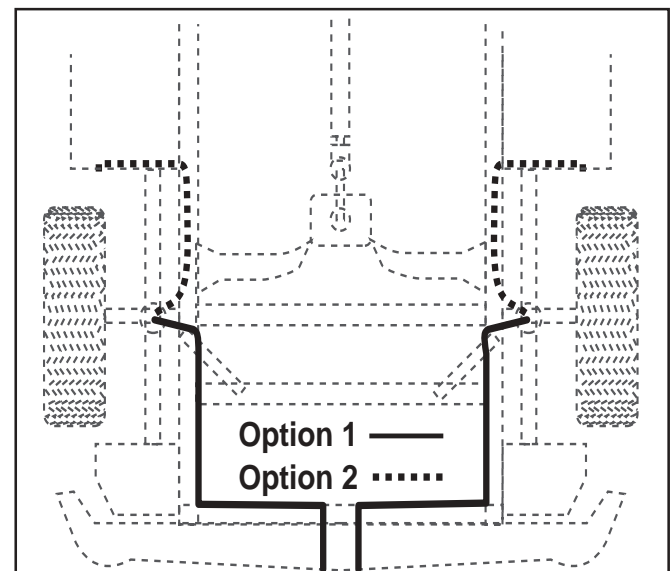

Figure 9
7. Route the air line along the frame or under the fender panel to the desired inflation valve location (Figure 9). Attach the air line to the chassis with plastic straps or wire.